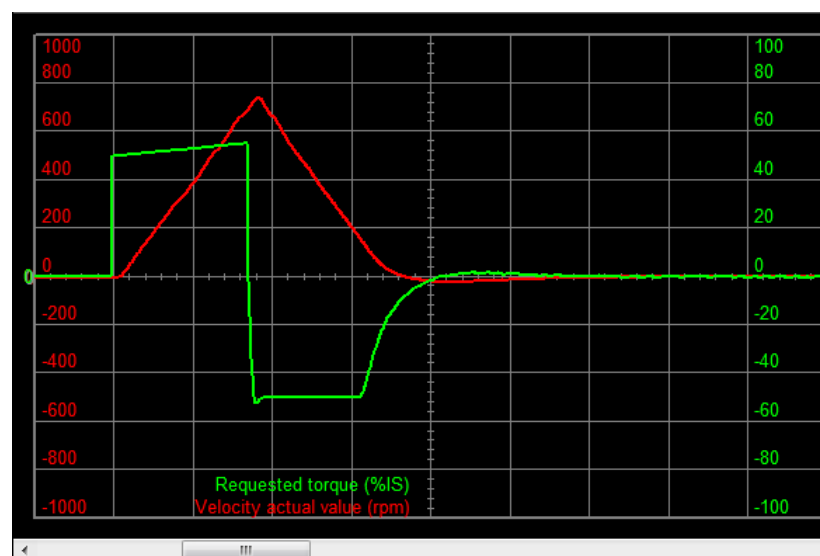

Figure 19.8. Example of a correct estimate of the inertia moment.
- If the stop has a behaviour similar to the one that's reported in *Figure 19.8*, so without vibrations, without noise and with a little and immediately damped overshoot, then the velocity loop tuning is finished without problems.